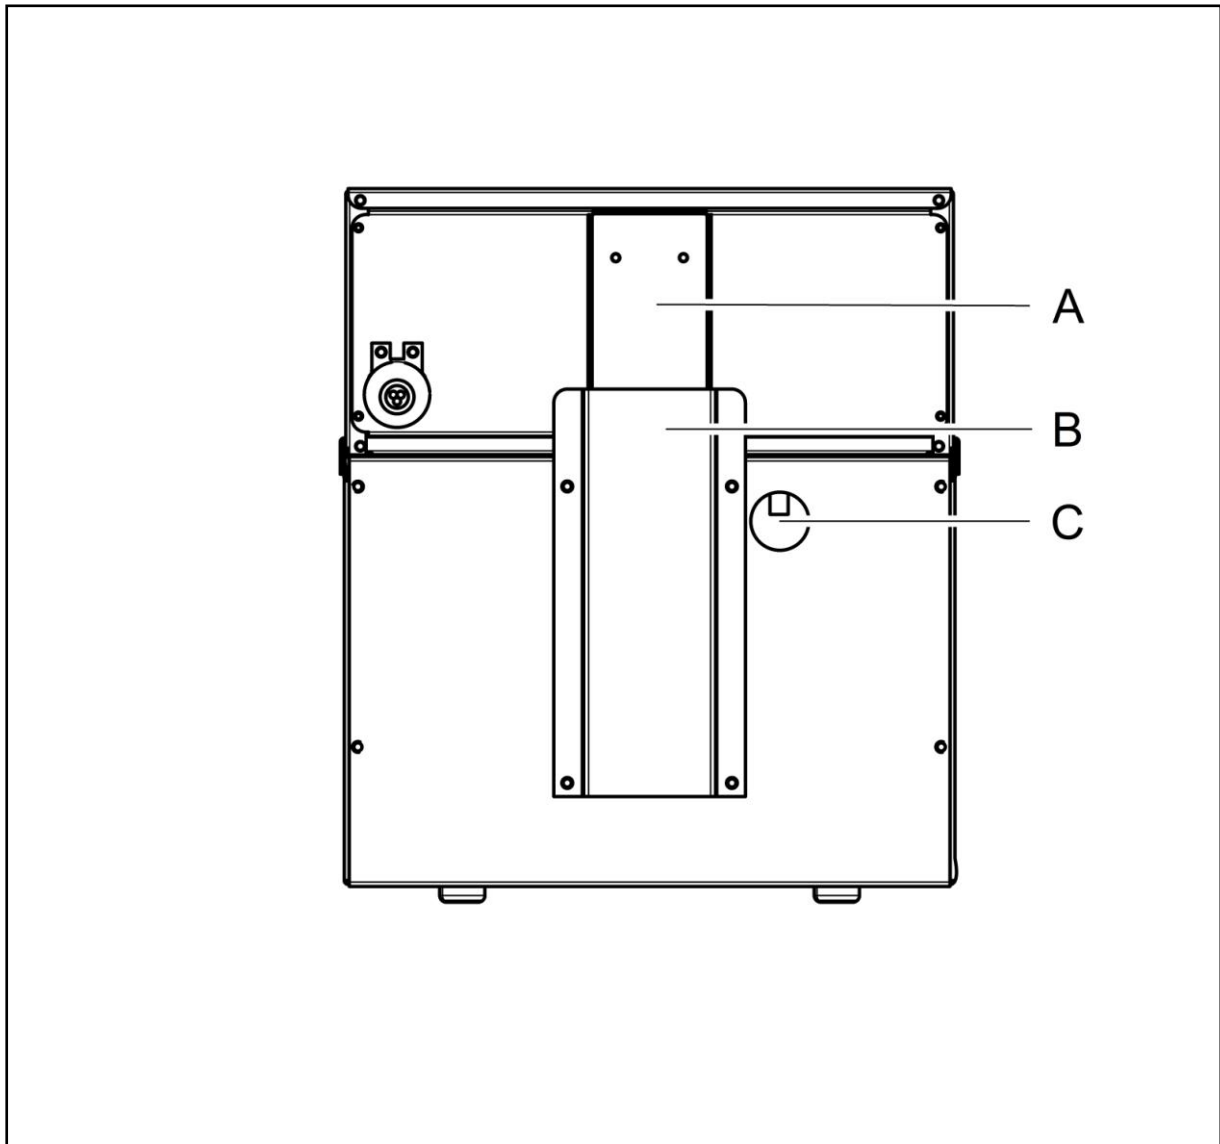

Fig 2
Before first use, clean the tank. Firstly remove the base plate, then lift the control head out by sliding the rear guide Fig 2 (A) out of the channel (B). Using warm water and mild detergent clean the tank and dry thoroughly.
This appliance is fitted with a safety thermostat to cut off the power in the event of a fault. If the green neon illuminates but the element does not heat, re-set the safety thermostat by pushing up the red button located through the access hole in the back panel Fig 2 (C). The appliance must be cool before the safety thermostat can be re-set.